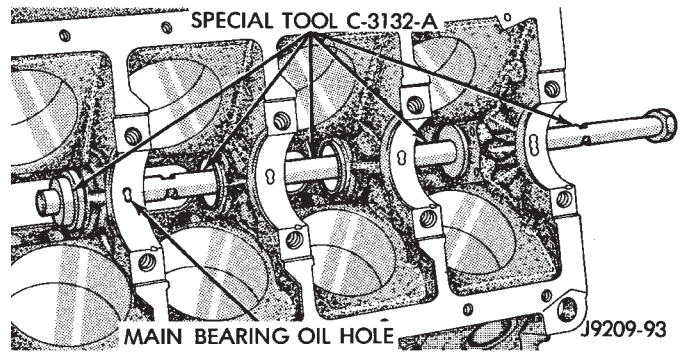

Fig. 36 Camshaft Bearings Removal/Installation with Tool C-3132-A
(1) With engine completely disassembled, drive out rear cam bearing core hole plug.
(2) Install proper size adapters and horseshoe washers (part of Camshaft Bearing Remover/Installer Tool C-3132-A) at back of each bearing shell. Drive out bearing shells (Fig. 36).